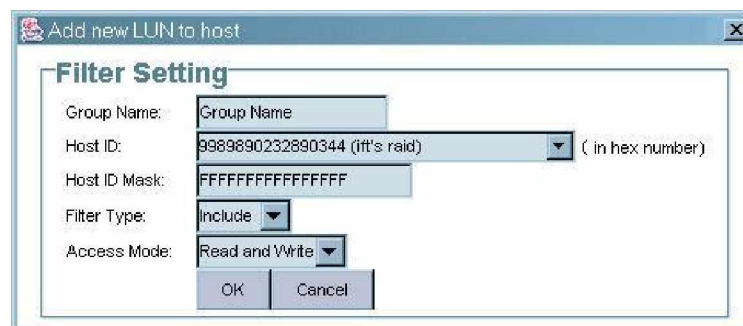

Figure 10-7: LUN Filter Mapping Window
Step 2. Select the **Map LUN and Add Filter** button shown at the bottom of **LUN Map Setting** window. A new screen will appear (see *Figure 10-7*) in the content window. From this screen you can enter appropriate values for the following: